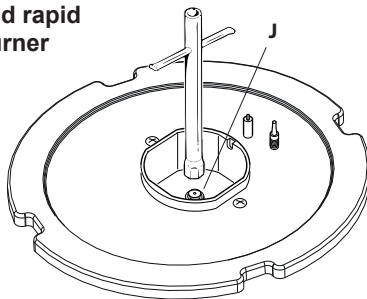

Fig. 2.2a
- Using a wrench, substitute the injectors “J” (figs. 2.2a, 2.2b, 2.2c, 2.2d) with those most suitable for the kind of gas for which it is to be used.